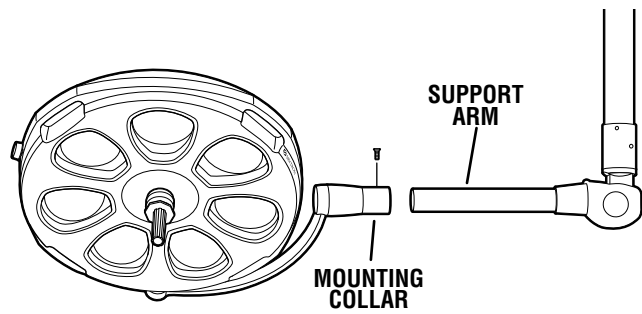

Figure 7. Model 29 Lighthead Installation
b. Remove the four (4) screws from the lighthead mounting stub.
c. Install the lighthead mounting collar onto the support arm and secure with the screws previously removed. See figure 7.